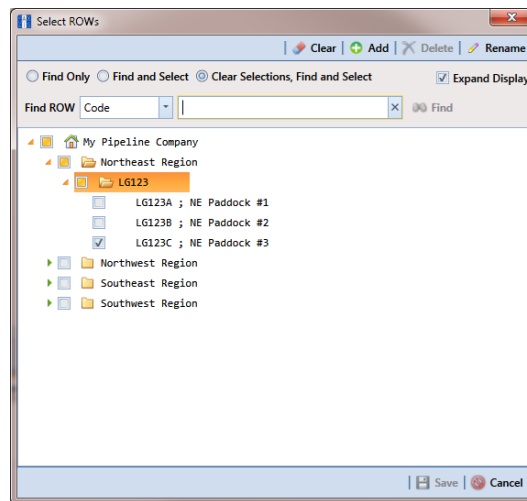

Figure 10-43. Select ROWs
- 1 Select one or more pipeline segments in the *Select ROWs* window. Choose pipeline segment(s) with facilities you want to include in the Bullhorn Bridge definition. Click  **Save** to close the window (Figure 10-43).
- 1 Select one or more pipeline segments in the *Select ROWs* window. Choose pipeline segment(s) with facilities you want to include in the Bridge definition. Click  **Save** to close the window (Figure 10-43, page 497).